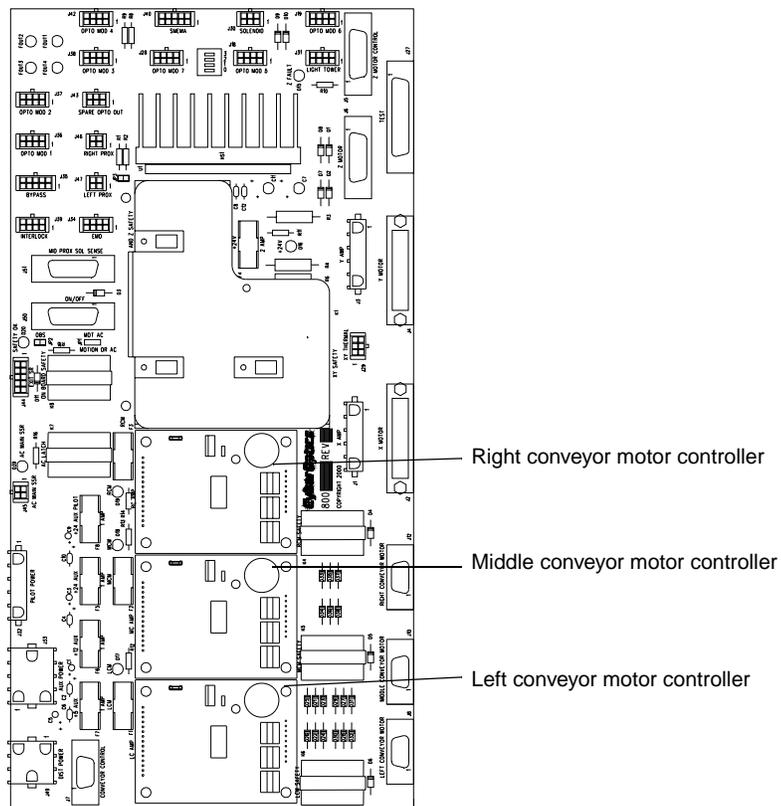

Figure 75. Motor Controllers on Relay Board
1. Locate the motor controllers on the Relay board (see Figure 75).